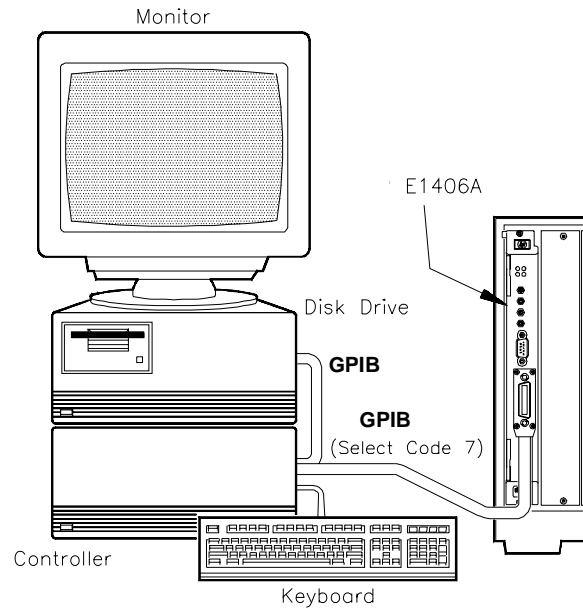

Figure 2-12. Test F-5: Interrupt/Status Info Connection
- Connect computer to Command Module (see Figure 2-12)